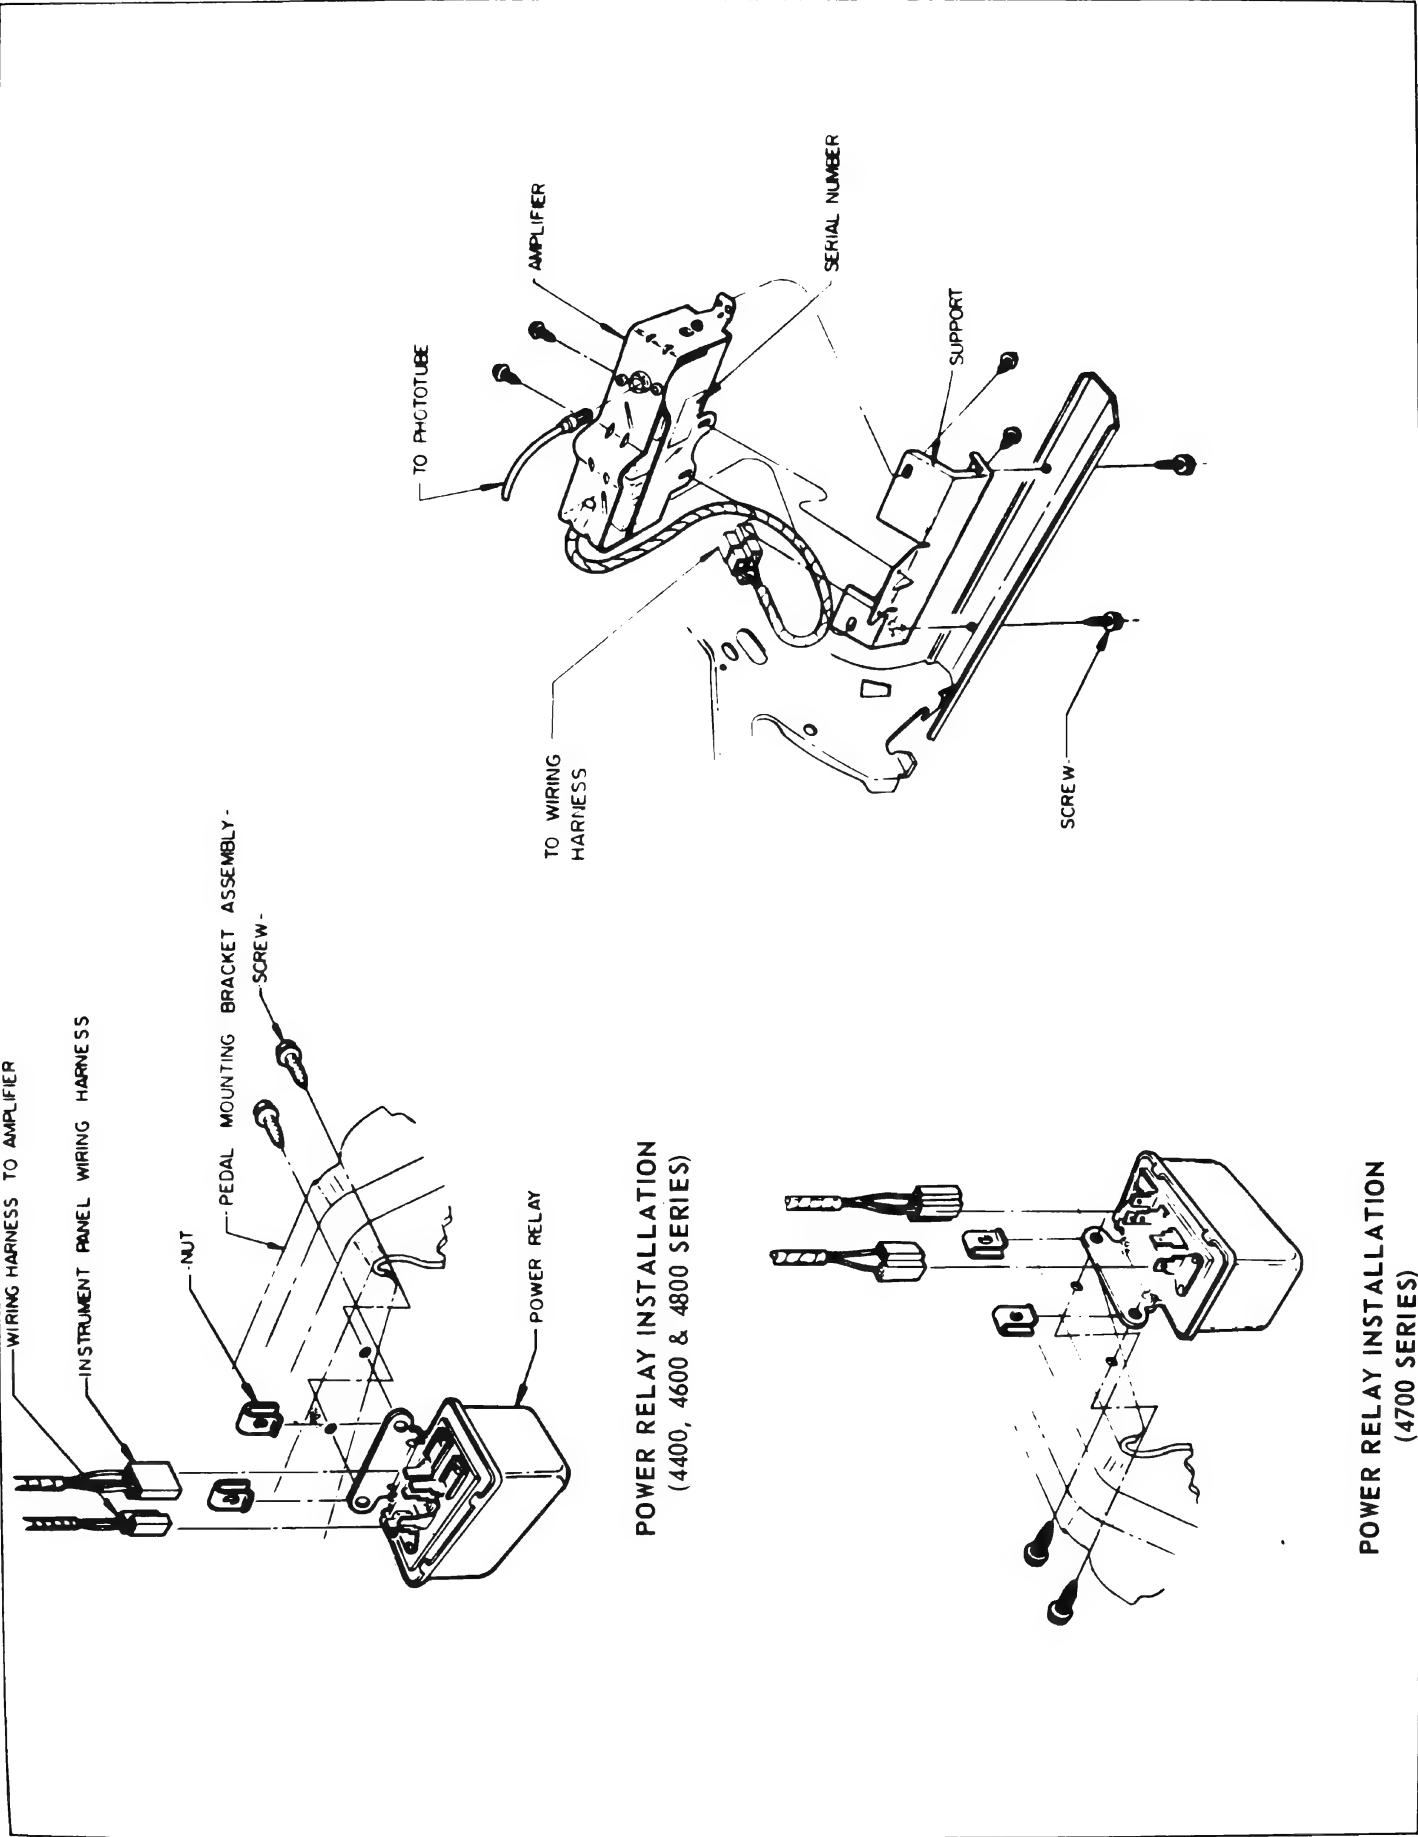

Figure 11-166—Amplifier and Power Relay Installation
- (b) Disconnect phototube harness from amplifier. See Figure 11-166.